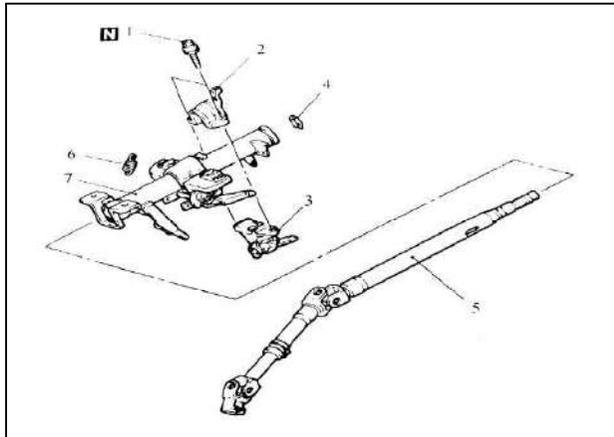

Fig 17-15
2.DISASSEMBLY AND REASSEMBLY (See fig 17-15)